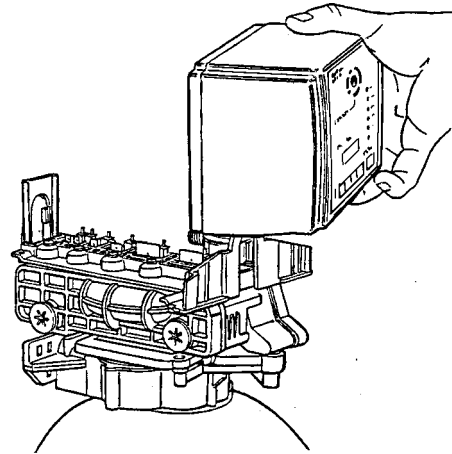

Figure 18
- Lift the control off the valve, Figure 18. To replace the control, reverse the above procedure. Note that the camshaft needs to be positioned correctly before it can be inserted into the back of the control. There is a locating rib on the camshaft. Position the rib on the top of the shaft and slide the camshaft into the control. Engage the camshaft back into the rear "hoop" of the top plate.